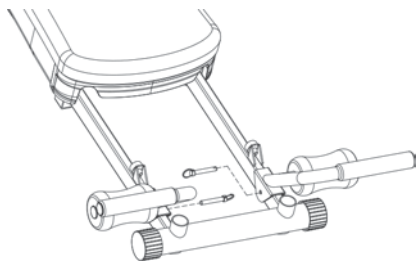

Fig. 4
3. Insert the 2 Short Hitch Pins through the holes on the Wing Attachment brackets and the holes on the rails, as shown in Fig. 4.